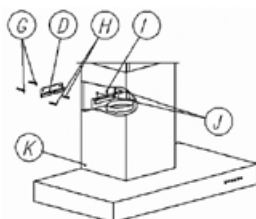

Fig. 4
4. Hang the body of the unit on the holder (K). Set the exact vertical position by screws (J) and (I), Fig. 4.
6. Mount both the chimney covers on the body (K and N), shift the upper chimney cover (N) to the required height, and mark its upper edge on the wall (Fig. 4 and 5. Remove both the chimney covers.